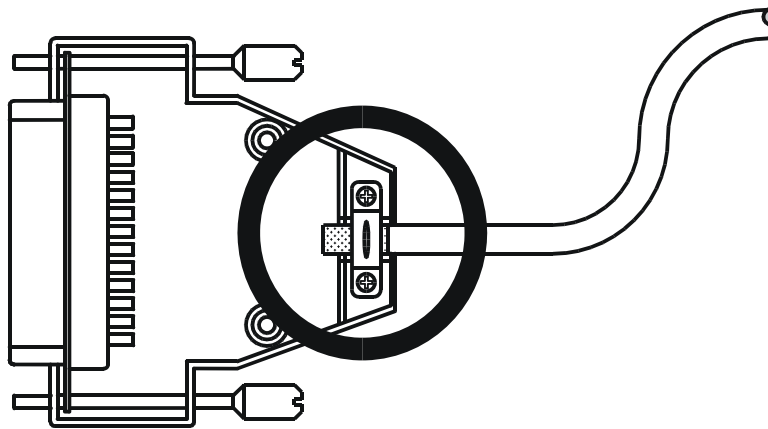

Fig. 2: Shielding of SUB-D connectors in conformity with EMC standards
- Only use metallised connectors, e.g. SUB-D with metallized housing. Make sure that the strain relief is directly connected with the housing here as well (see Fig. 2).